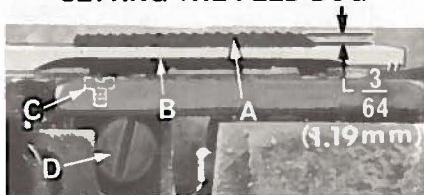

FIGURE 6
Set the feed dog (A, Fig. 6) in the throat plate (B) so there is equal clearance on all sides. See that the tips of the teeth extend the depth of a tooth or approximately 3/64 inch (1.19 mm) above the throat plate and are parallel with the throat plate at high point of travel. Adjust the supporting screw (C), under the feed dog, to maintain this setting. Screw (D) is used to hold feed dog in position.